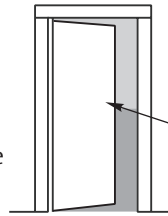
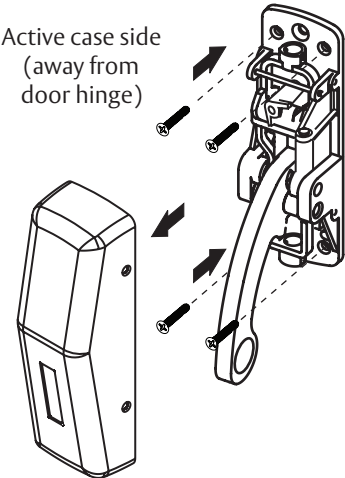

Figure 5
Figure 6
2. Mount chassis to door as indicated in Figure 5 and Figure 6.